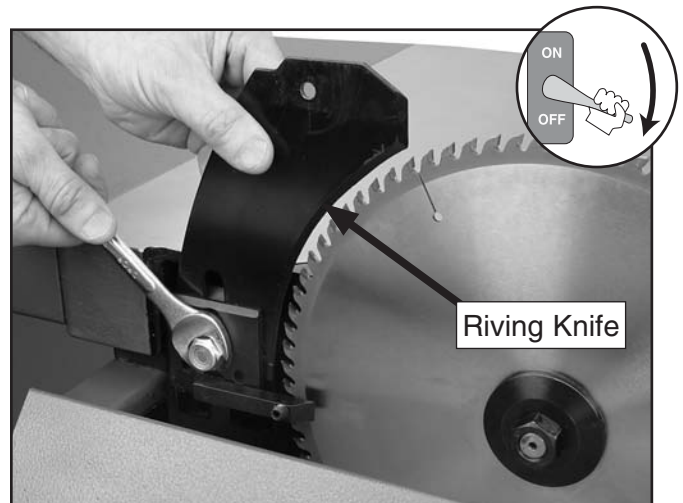

Figure 31. Installing the riving knife.
7. Loosen the riving knife center bolt, slide the riving knife between the plates as shown in **Figure 31**, and slightly tighten.